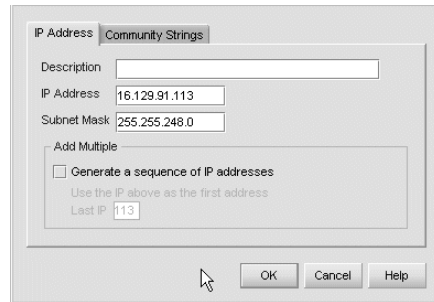

Figure 40: Domain Information dialog box (IP Address page)
2. Click **Add**. The Domain Information dialog box displays with the **IP Address** page open, as shown in Figure 40.